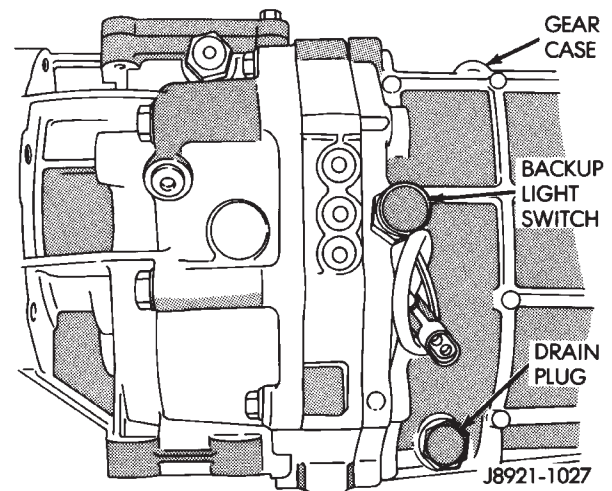

Fig. 1 Drain Plug And Backup Light Switch Location
(13) Secure wire harnesses to clips/tie straps on transmission and transfer case.
(14) Connect backup light switch wires.
(15) Install clutch slave cylinder.
(16) Connect vehicle speed sensor wires.
(17) On XJ, install rear crossmember and attach cushion and bracket. Tighten crossmember-to-frame bolts to 41 N·m (30 ft. lbs.) torque. Tighten transmission-to-rear cushion and bracket bolts/nuts to 45 N·m (33 ft. lbs.) torque.
(18) On YJ, install rear cushion and bracket and skid plate. Tighten attaching bolts/nuts to indicated torque (Fig. 1).
(19) Align and install front/rear propeller shafts. Tighten shaft U-joint clamp bolts to 19 N·m (170 in. lbs.) torque.
(20) On XJ, install skid plate if removed. Tighten bolts to 42 N·m (31 ft. lbs.) torque. Tighten stud nuts to 17 N·m (150 in. lbs.) torque.
(21) Top off transmission and transfer lubricant levels.
(22) Remove supports and lower vehicle.
(1) Remove release bearing, release lever and release fork from clutch housing. Then remove clutch housing from transmission.
(2) Remove backup light switch. Then remove drain plug (Fig. 1) and drain transmission lubricant into pan.